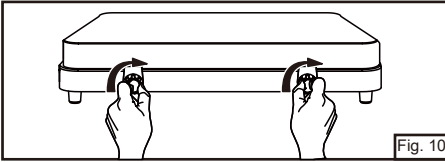

Fig. 10
- Turn both burner valve knobs clockwise firmly to close the gas supply. (Fig. 10)